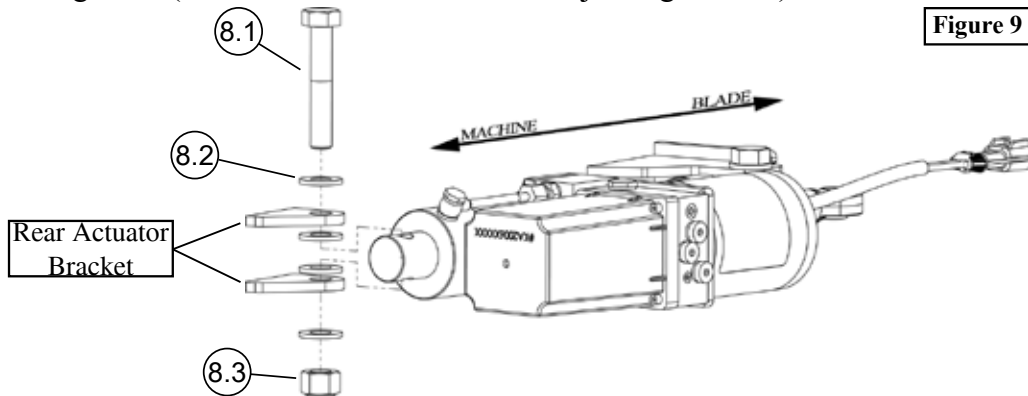

Figure 9
- Place bolt (8.1) through flat washer (8.2), top tab of rear actuator bracket, flat washer (8.2), Hydraulic Actuator (7), flat washer (8.2), bottom tab of rear actuator bracket, and flat washer (8.2). Place nylock nut (8.3) onto bolt (8.1) as shown in Figure 9. (This orientation of hardware is just a guideline)